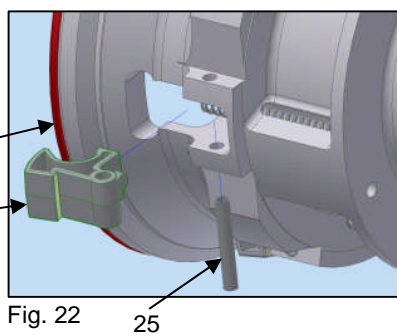

Fig. 22
23. Use a punch and hammer to remove Roll Pin (25) from Body (1). The Locking Claw (23) will now be free to remove. Repeat process for the other 4 locking claws. Discard locking claws and roll pins. (Fig. 22)
24. Insert New Locking Claw (23) into the slot in the Body (1). Secure locking claw to body with New Roll Pin (25) with a hammer. Repeat process for other 4 Claws. (Fig. 22)